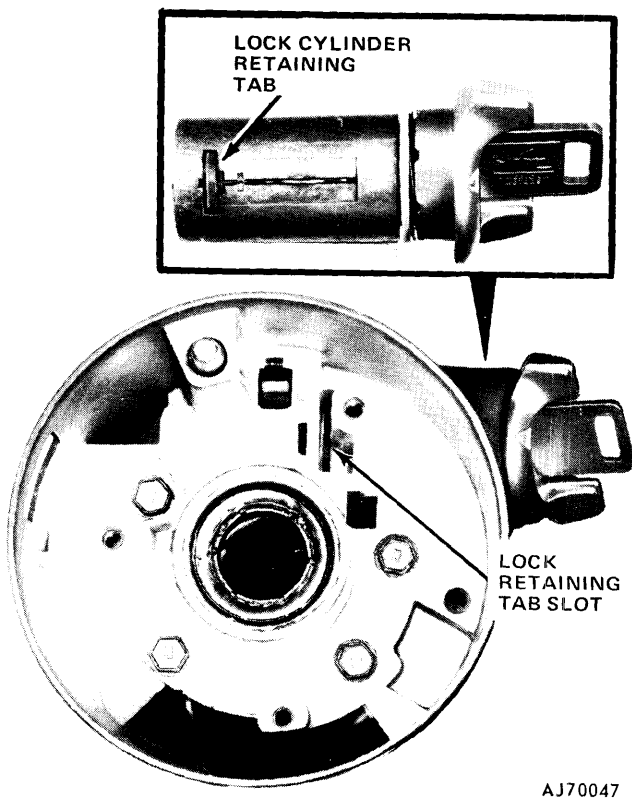

Fig. 11-7 Lock Cylinder Retaining Tab Location
(16) On vehicles with Cruise Command, remove turn signal lever and switch and remove switch harness using string previously taped in place.
(17) Place ignition lock cylinder in RUN position.
(18) Compress lock cylinder retaining tab using thin-bladed screwdriver and remove lock cylinder from column.
**NOTE:** The lock cylinder retaining tab is accessible through the slot adjacent to the turn signal switch mounting boss (fig. 11-7). If the retaining tab is not visible through the slot, scrape or knock any casting flash out of the slot to provide access.